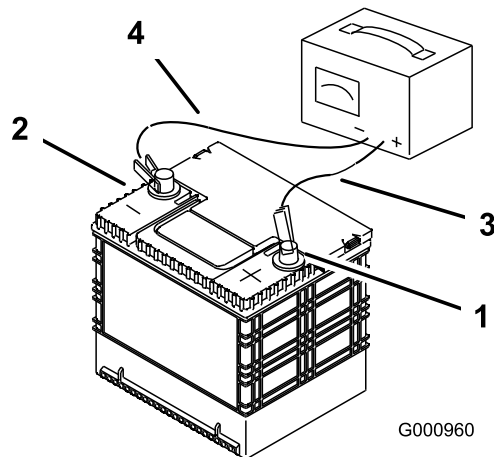

Figure 65
3. When the battery is fully charged, unplug the charger from the electrical outlet, then disconnect the charger leads from the battery posts (Figure 65).